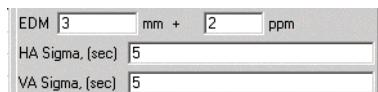

Figure 5-12. Assign Apriori Values for Least Squares Method
4. For None or Least Squares adjustment types, select the apriori values of error of linear and angular measurements (Figure 5-12). The None method is used only for computing a resection.